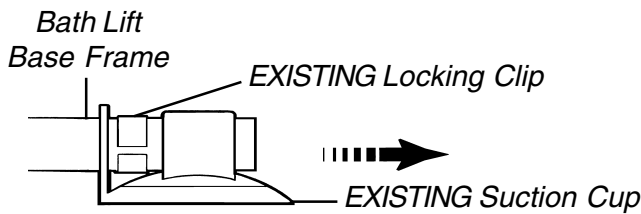

FIGURE 10 - REMOVING THE EXISTING SUCTION CUP
- Twisting EXISTING suction cup from side, pull the suction cup off of the bath lift base frame (FIGURE 10).